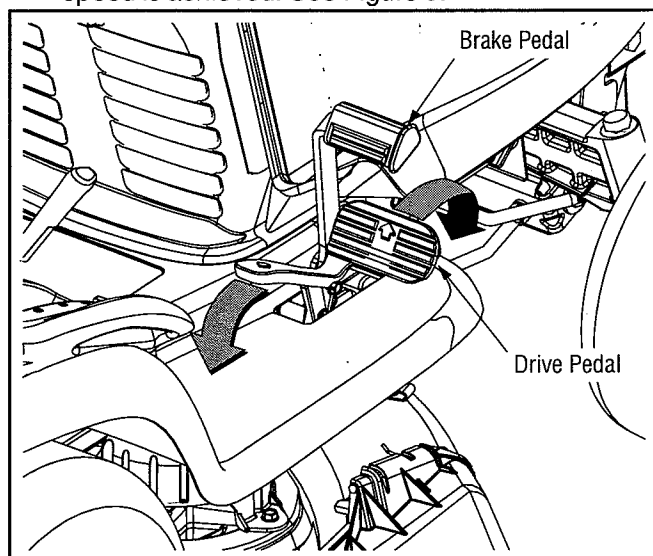

Figure 9
- To travel **FORWARD**, slowly press the upper portion of the drive pedal forward until the desired speed is achieved. See Figure 9.
- To travel in **REVERSE**, check that the area behind is clear then slowly press the lower portion of the drive pedal with the ball of your foot (NOT your heel) until the desired speed is achieved. See Figure 9.